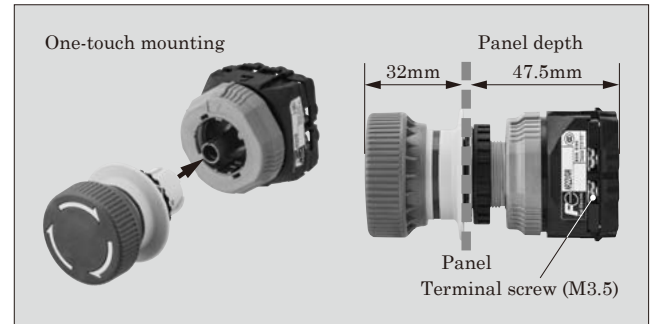

Fig.3 Mounting and dimensions of new series operating element and contact block
- Attachment and detachment of the operating element and contact block: one-touch attachment is possible without rotating the contact block even if wiring connected (see Fig. 3).
- Terminal screw size: M3.5, which is usually used for devices in panels, has been adopted (see Fig. 3).
- Panel depth: 47.5mm (see Fig. 3), realizing a reduction of 16% from the conventional products.